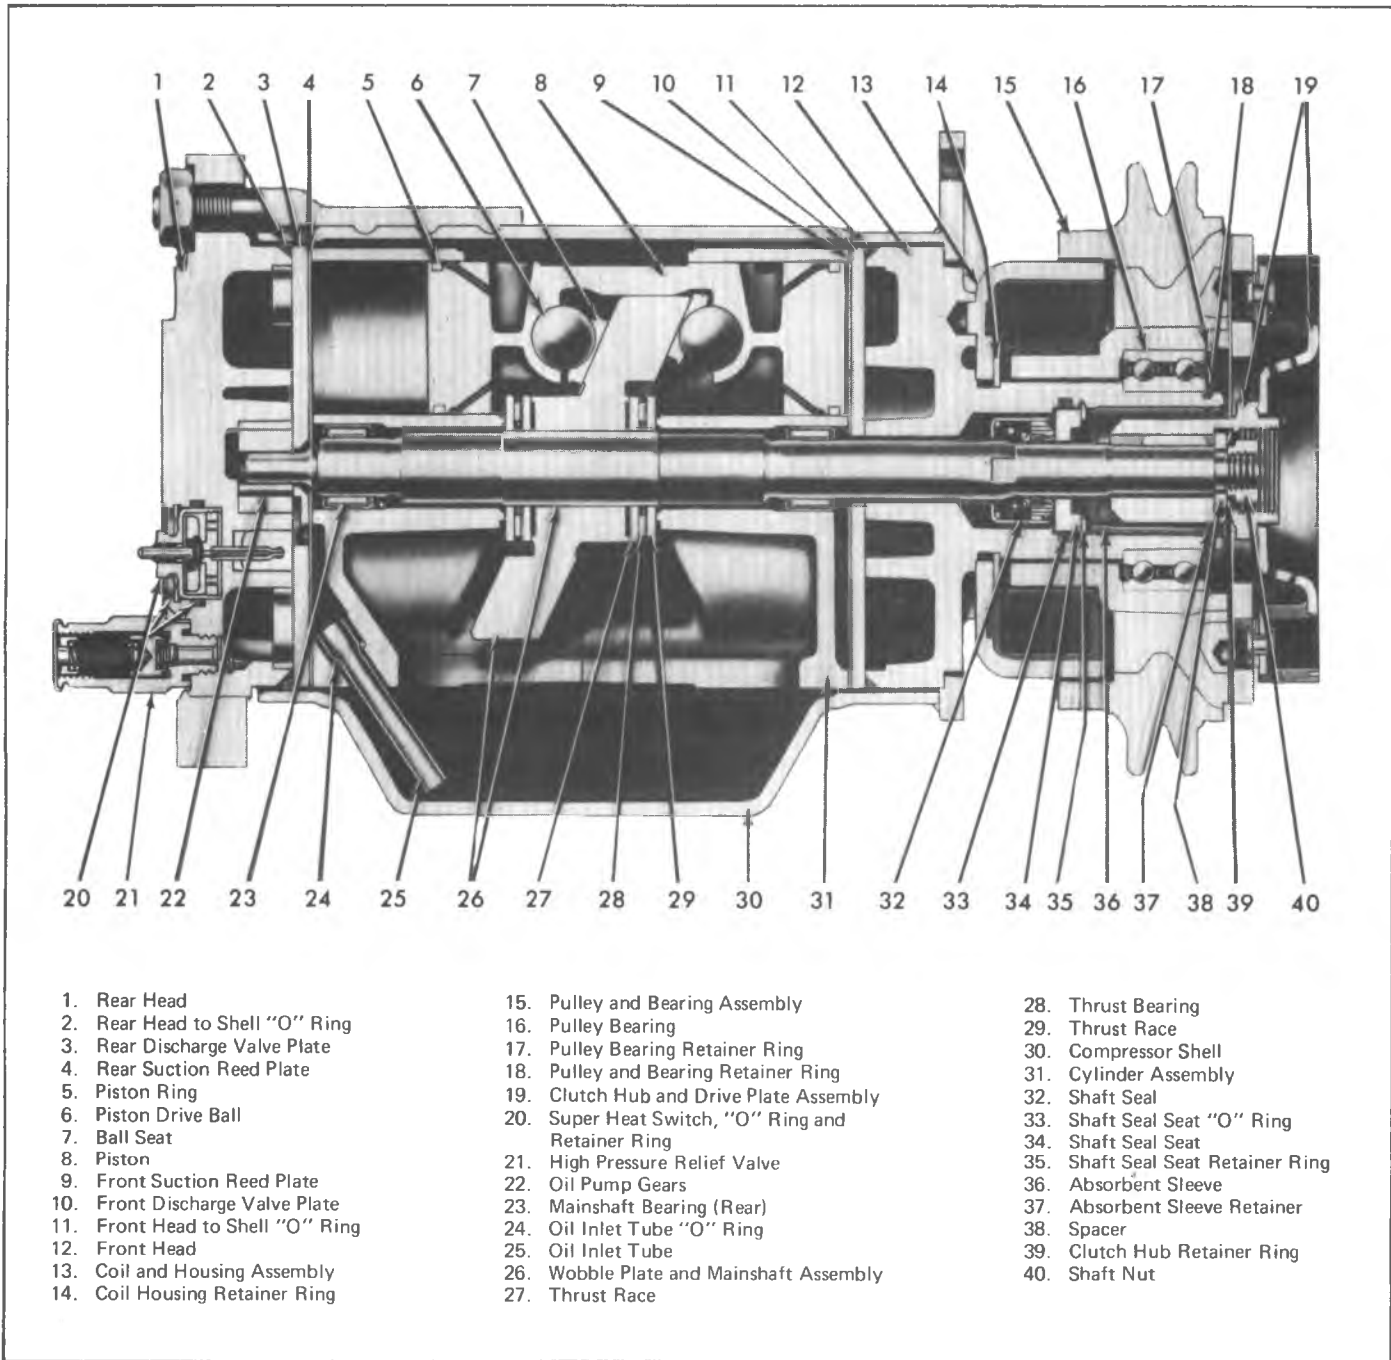

Fig. 1--Six Cylinder Compressor--Cross Sectional View
4. Use Snap Ring Pliers J-5403 to remove the retainer ring (Item 39, fig. 1). Then remove the hub spacer.
4. Install the hub spacer washer and, using Snap Ring Pliers J-5403, install the retainer ring (Item 39, fig. 1), convex side of ring facing washer.